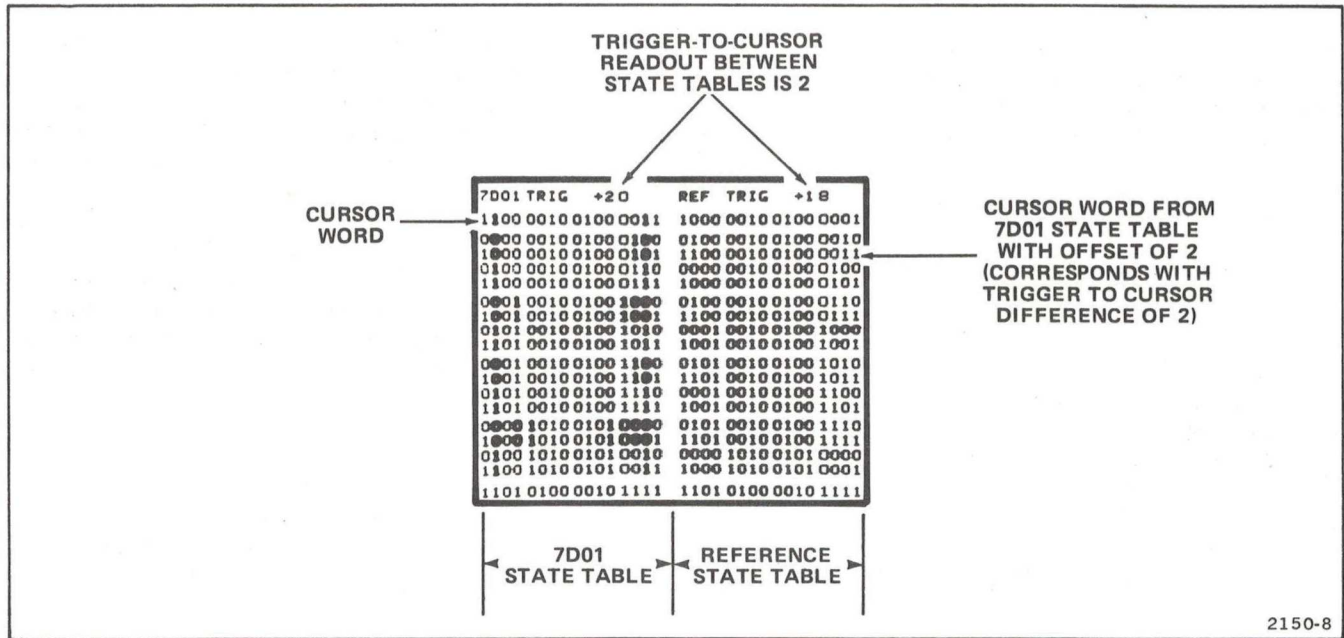

Figure 2-5. Typical state-table display showing offset between the 7D01 and reference state tables.
**REF TABLE HELD.** The HELD mode is functional only when operating in the 7D01  $\oplus$  INTENS REF mode. The reference table cursor location remains at one setting, allowing the cursor location in the 7D01 state table to be moved independently (offset). Refer to Figure 2-5.
**REF TABLE FOLLOWS WITH/OFFSET.** The FOLLOWS WITH/OFFSET mode is functional only when operating in the 7D01 ⊕ INTENS REF mode. The difference in cursor location (offset) between the 7D01 state table and the reference state table, is maintained at the time the FOLLOWS W/OFFSET push button is pressed (see Figure 2-5). The offset between the 7D01 and reference state tables remains constant as the 7D01 cursor is moved. To delete the trigger-to-cursor offset, select REF TABLE FOLLOWS 7D01.
if the trigger-to-cursor readout of the state table displays is offset, the 7D01 state table will be transferred to the reference state table with that offset (intensified bits may appear). The tables are equal but offset by the trigger-to-cursor readout (see Figure 2-5). To make the tables equal, either set the 7D01 cursor position controls so that the trigger-to-cursor readout is the same for both state tables or press the REF TABLE FOLLOWS 7D01 push button.